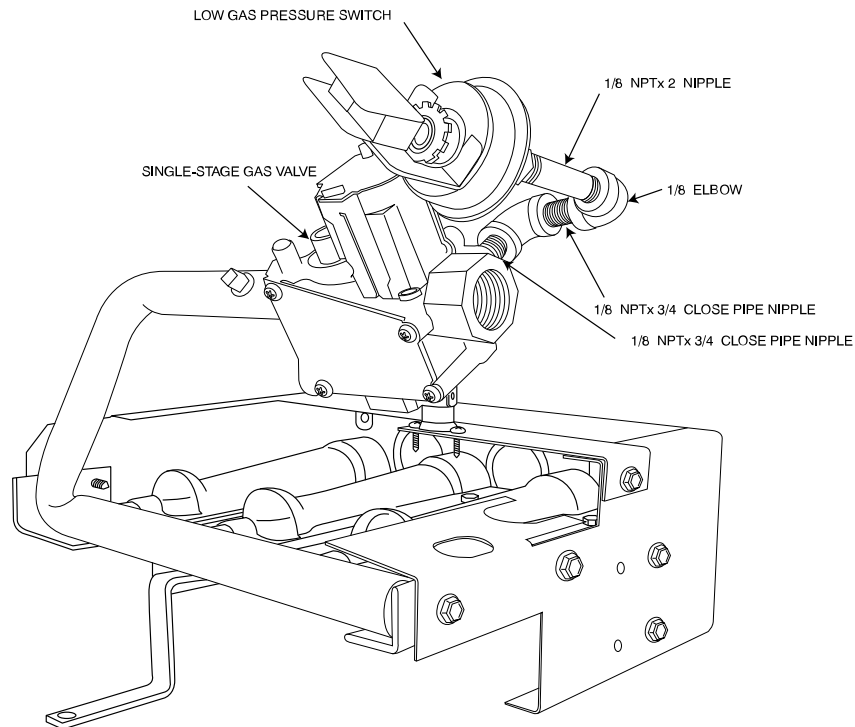

Fig. 17 – Removing Elbows, Nipples, and Low Gas Pressure Switch on Single-Stage Units
13. If there is a low gas pressure switch mounted to the gas valve (see Fig. 17) it must be removed. Disconnect all of the 1/8-in NPT pipe fittings leading back to the gas valve. Plug the open hole in the gas valve with the 1/8-in. pipe plug contained in this kit. Use a suitable pipe sealant (field- supplied, must be certified for use with natural gas) to prevent leakage of combustible gas.